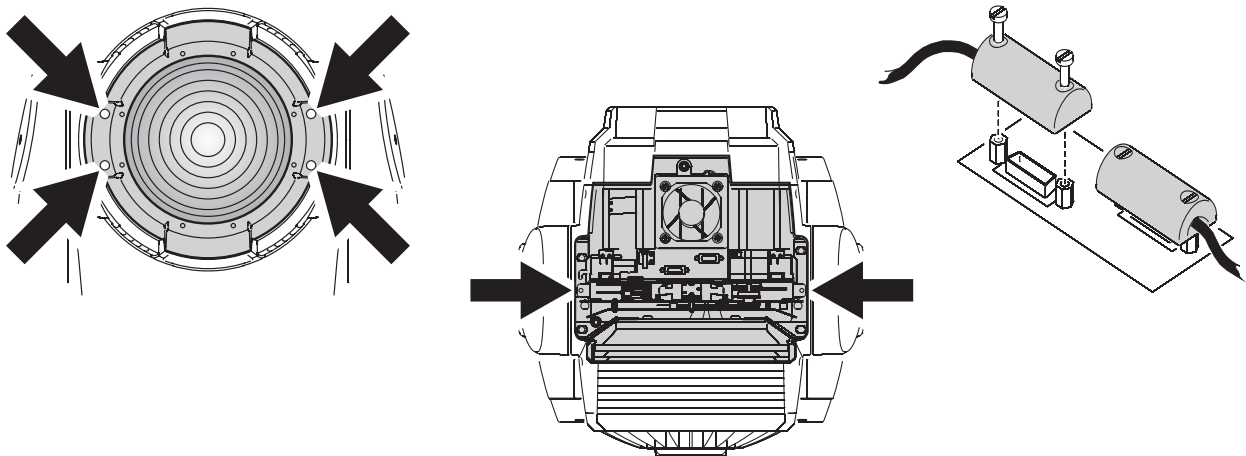

Figure 12: Removing the effects module
1. Remove the four retaining screws from the front lens ring (see Figure 12) and remove the front lens.
3. Loosen the screws in the two module wireset connectors as shown in Figure 12 before lifting the module away from the fixture.